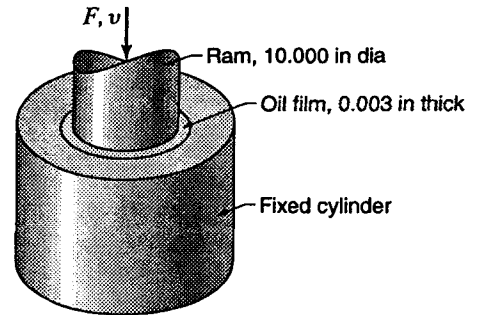

Figure P2.21
- 2.22 A hydraulic lift of the type commonly used for greasing automobiles consists of a 280.00-mm-diameter ram which slides in a 280.18-mm-diameter cylinder (similar to Fig. P2.21), the annular space being filled with oil having a kinematic viscosity of 0.00042 m2/s and specific gravity of 0.86. If the rate of travel of the ram is 0.22 m/s, find the frictional resistance when 2 m of the ram is engaged in the cylinder.